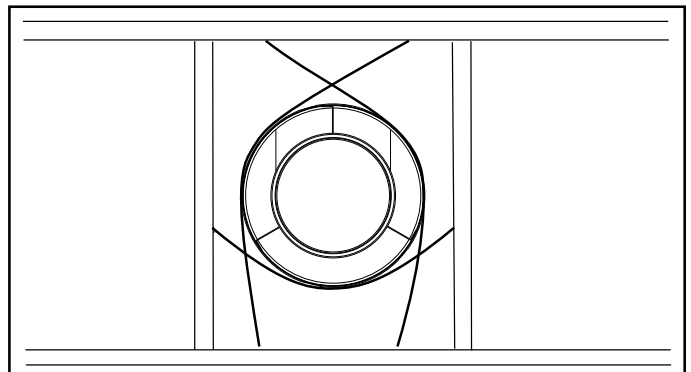

Figure 10.5 - Securing Vertical Pipe Sections
- Vent supports or plumbers strap (spaced 120° apart) may be used to support. See figures 10.5 and 10.6.